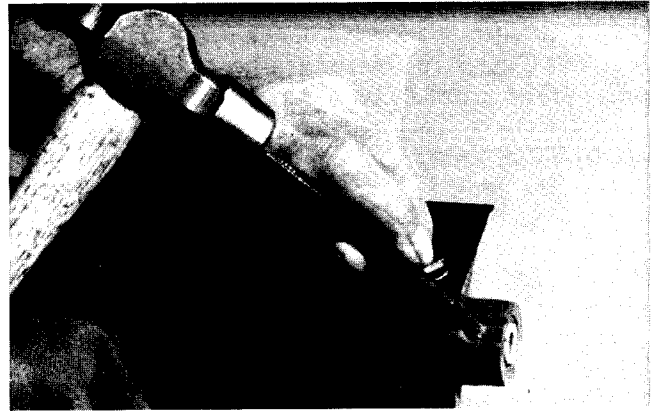

Figure 31
2. Remove bedbar end bushings with a punch and hammer (Fig. 31). Alternate from one side to other on bushing (there are two slots in bedbar bushing boss).